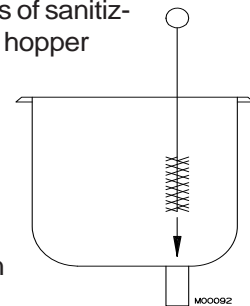

Figure 10-2 Sanitize hopper and its components
4. Pour 2 gallons of sanitizing solution into each hopper pan. Using a clean brush, scrub the hopper walls, mix level sensors and the mix feed ports from the hoppers to the cylinders, as shown in figure 10-2.